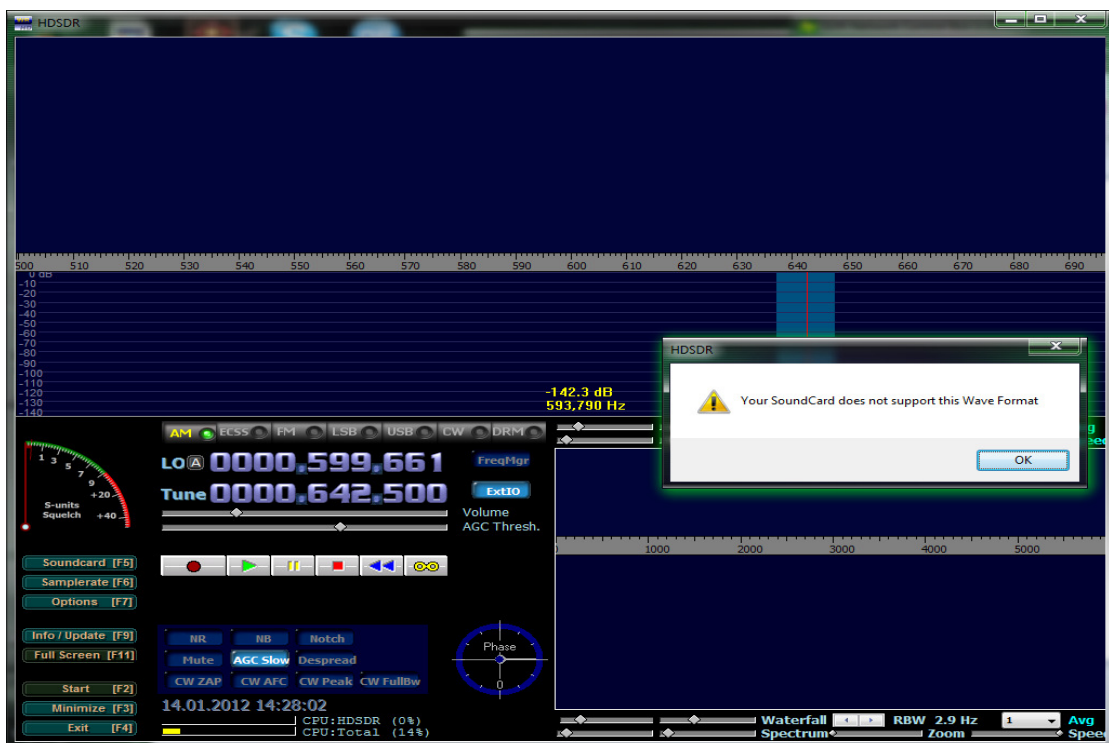

**Figure 11 Tftpd32 utility, firmware transfer finish message window**
- 3.1.7. After firmware file has been found, press “Put” button, it begin firmware upgrade process. If all sequence, that is described above, has been done successfully, after number of second delay you will see that yellow LED is blinking – this indicate that firmware upgrade process is running. After firmware process is finishing, yellow LED is switched off and data transfer finish message window is appearing (see **Figure.11**)